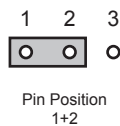

Figure 10 J7 — Default Position
- **Pin 1** (left) + **Pin 2** (center) position — In this position, the analog reference is terminated with an 75ohm resistor. This configuration is to be used for point-to-point cabling, or on the last card of a daisy chain topology. This is the default position (**Figure 10**).